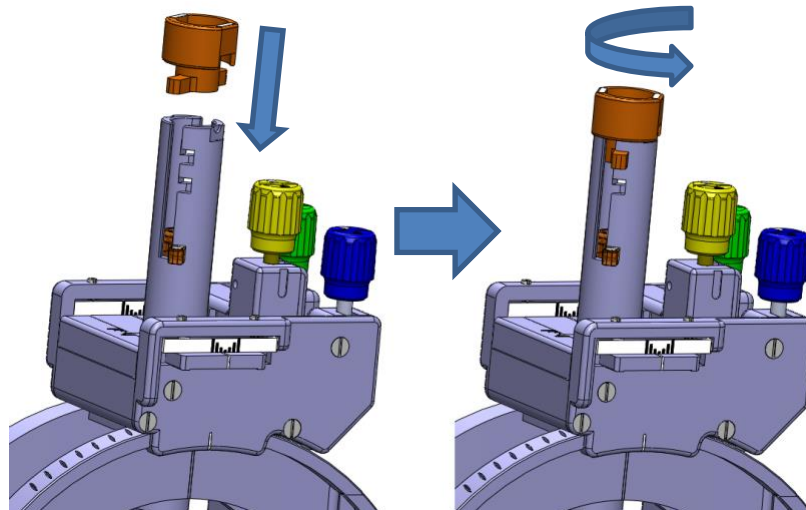

Figure 15: Reattaching the TC Cap
6. Attach the Removable Cap by aligning the Cap's tabs with the slots in the TC Support, pressing down on the cap, and then twisting to lock the tabs into the horizontal slots. **See Figure 15.**